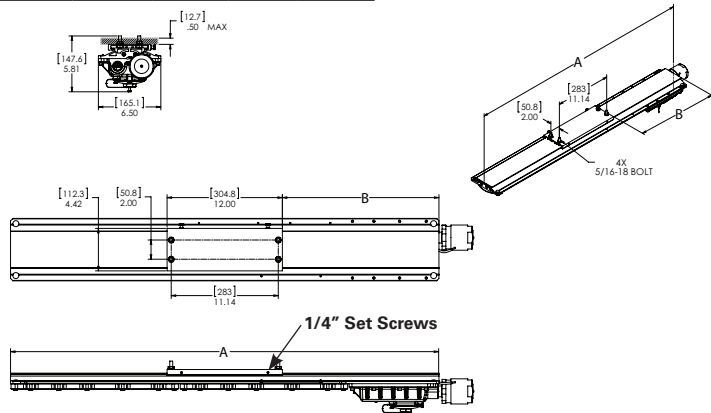

Figure 3. ZP1057MTK Back Mount Installation
1. For back mount, use the bracket as a template, mark and drill holes into the mounting surface and use supplied 5/16" bolts (see Figure 3).
3. It is strongly suggested to use two (2) qualified tradespeople to proceed with the final mounting of the fixture. This is recommended to avoid any personal injury or damage to the fixture.
4. Place the four (4) 5/16" bolts through the mounting plate and tighten evenly to the support structure. Minimum torque 138 in.-lbs. (15.6 N-m).
7. Tighten the four (4) 1/4" set screws on the slide bracket until they bottom. Torque to 78 in.-lbs. (8.8 N-m).